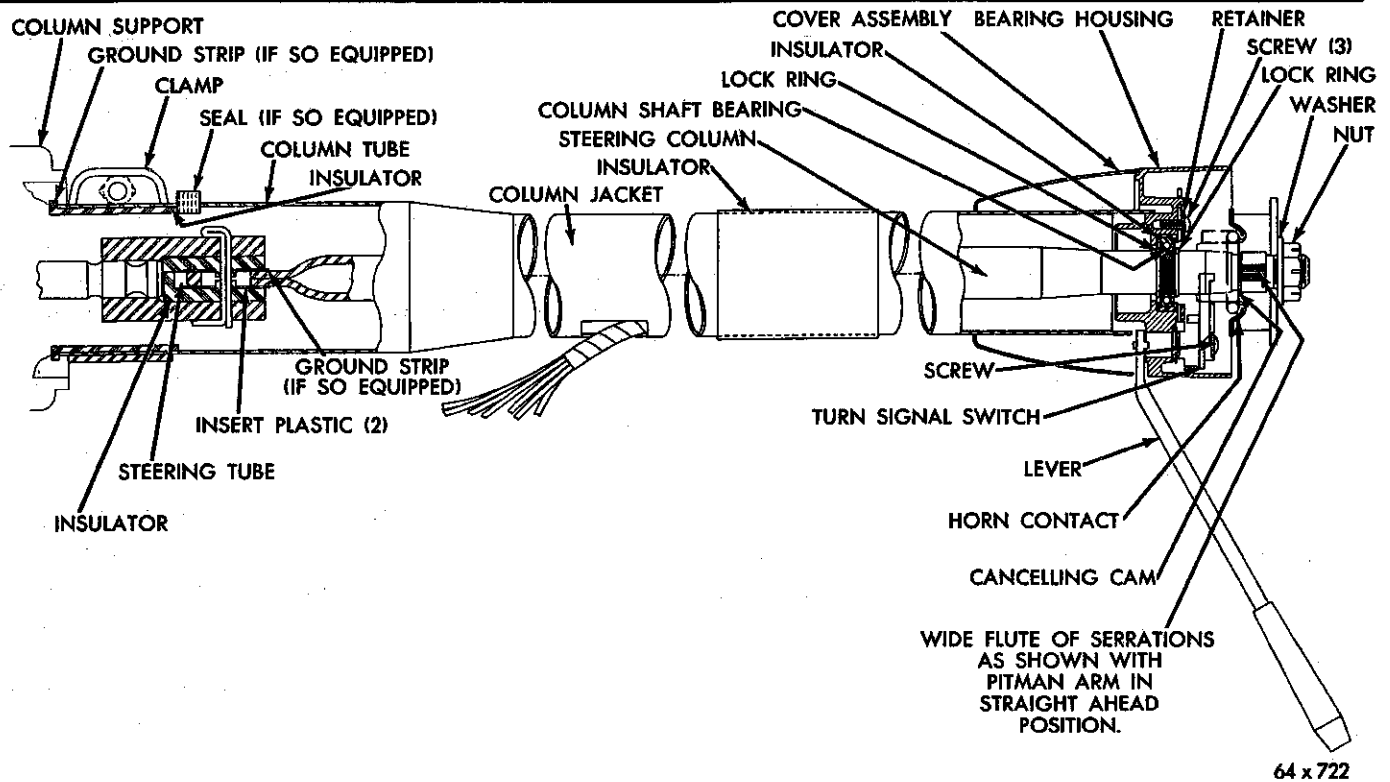

Fig. 6—Jacket Tube and Column Tube—Cross Section (Chrysler)
(1) Disconnect the negative (ground) cable from the battery.
(2) On models VC-1, VC-2 and VC-3 compress and turn the horn button $\frac{1}{4}$ turn counter-clockwise to release the horn button from the retainer.
(3) Disconnect the horn wire at the horn blowing switch.
(4) Remove the three (3) screws and insulators attaching the horn ring and horn blowing switch to the steering column. Remove the horn ring and switch.
(5) Refer to Figure 6 and loosen the steering wheel nut several turns and install the steering wheel puller Tool C-3428A and remove the steering wheel nut and steering wheel.
(6) Remove the two bolts attaching the steering jacket tube clamp at the instrument panel and remove